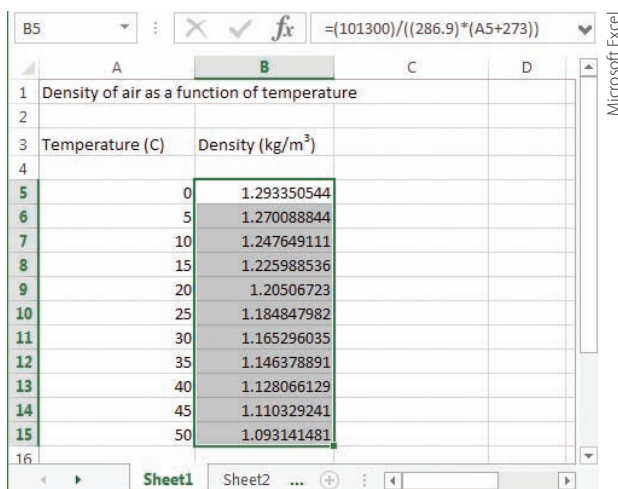

FIGURE 14.6
6. Use the **Home** menu (tab) and the **Fill** command to copy the formula into cells B6 to B15 (Figure 14.6). You could also use the **Fill** command with the + handle to copy the formula into cells B6 to B15.